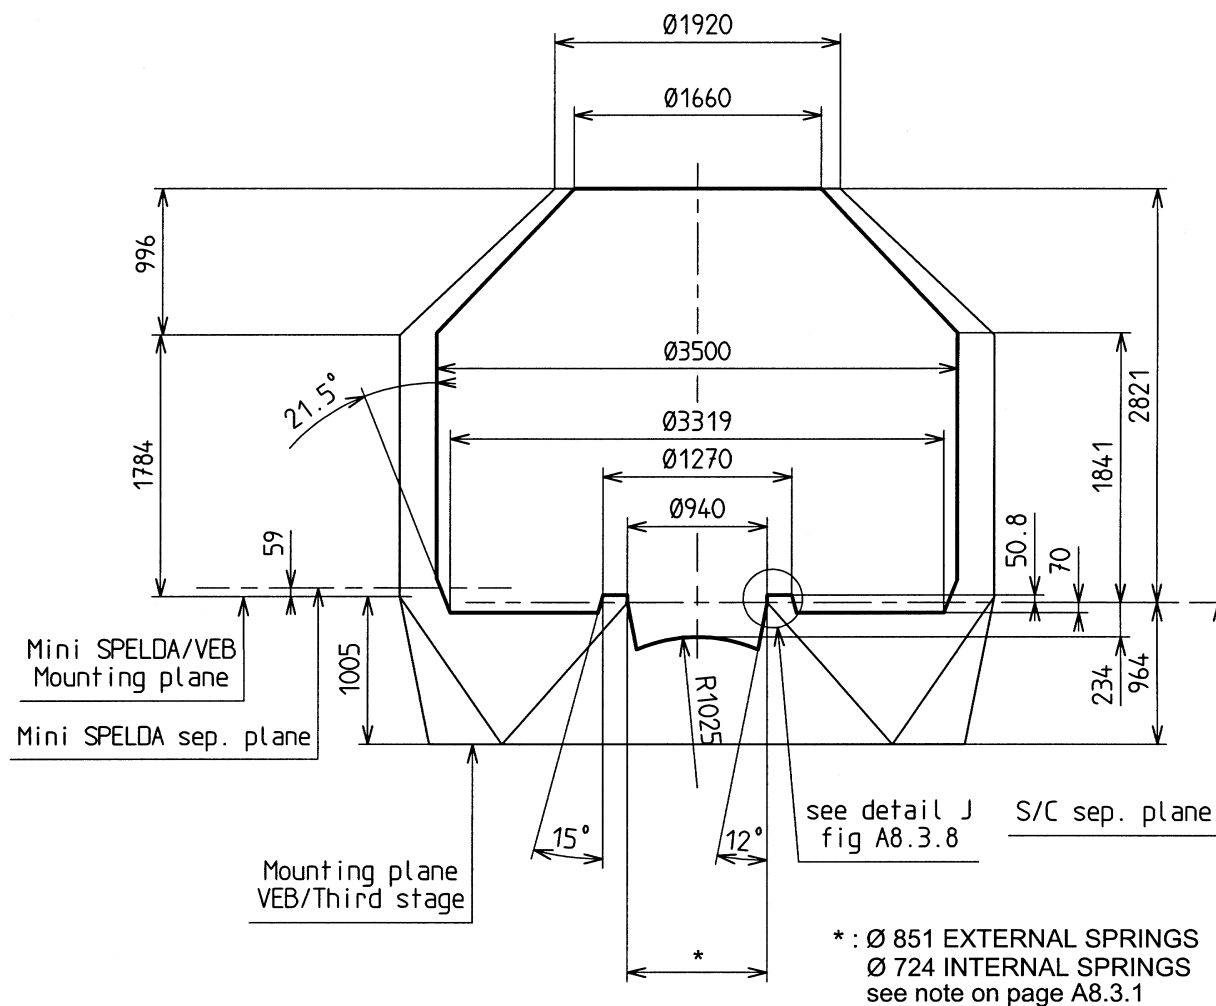

Fig. A8.3.11. – Usable volume beneath mini SPELDA (type 30)
**Note:** The adaptor cone is made of two parts: the cone itself and the upper frame. In order to ease the clampband installation, the upper frame can be dismantled from the cone. Mating of the spacecraft is, in that case, performed in two steps: clampband installation, and then bolting of the spacecraft and adaptor upper frame to the cone. To perform this operation, a stiffening tool is used which reduced the diameter of the inner usable volume to 650 mm (see Figures A8.3.11 to A8.3.14).